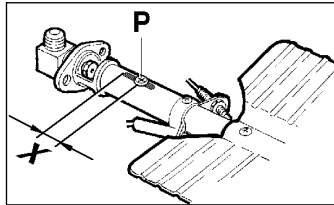

Fig 9
- 2) Loosen the screw **P** and adjust the position **X** of the Venturi cone (Fig.9) according to the measurements.